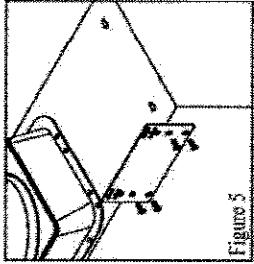

Figure 5
- B-3. Attach each hood-mounting bracket to the back of the hood with 4 flat head screws as shown in Figure 5.